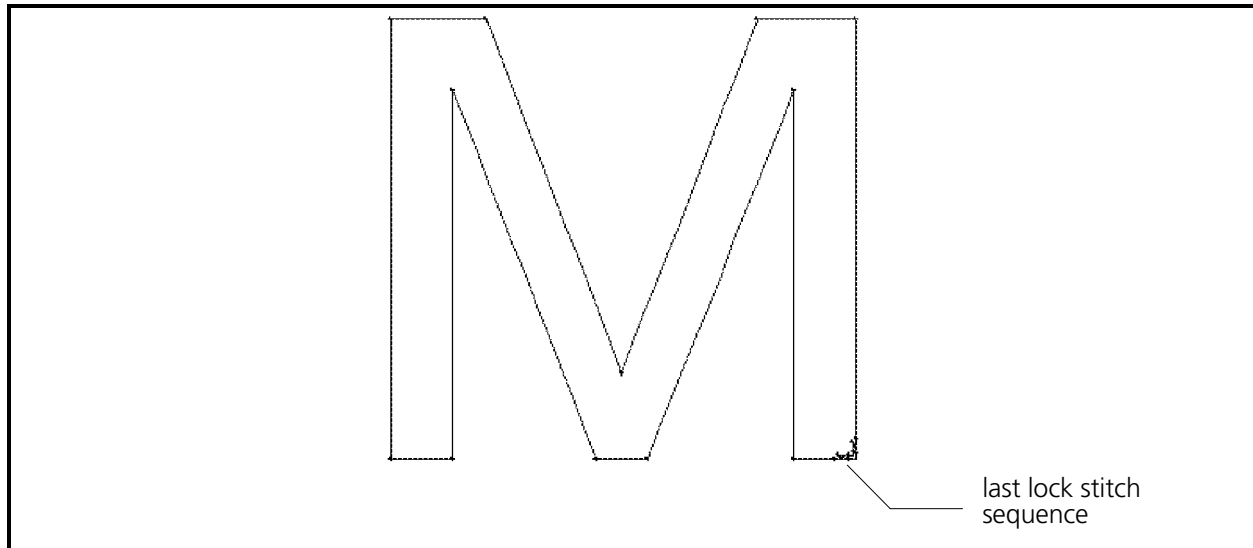

Figure 3-15
6. After placing the last outlining Mk1 put another series of 3 or 4 lock stitches along the bottom of the right leg of the letter **M** as you did in starting the **M**. Have the lock stitches run horizontally along the bottom as not to be directly on the first set of lock stitches that ran vertically from the corner (see Figure 3-15). The last Mk1 should end at or very near the corner.